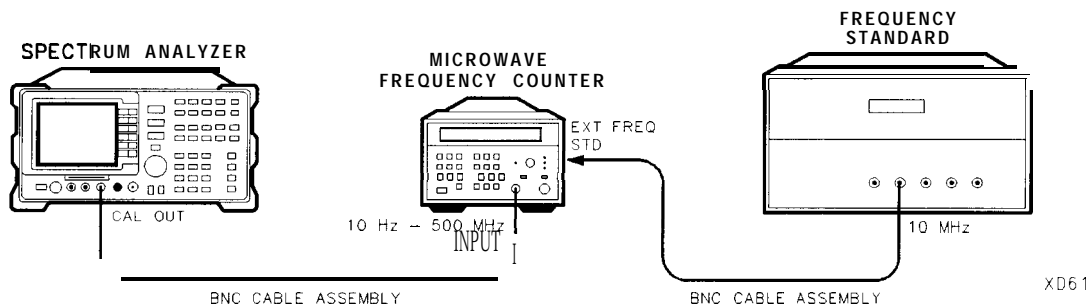

Figure 2-1. 10 MHz Reference **Test** Setup
1. Connect the equipment as shown in Figure 2-1.